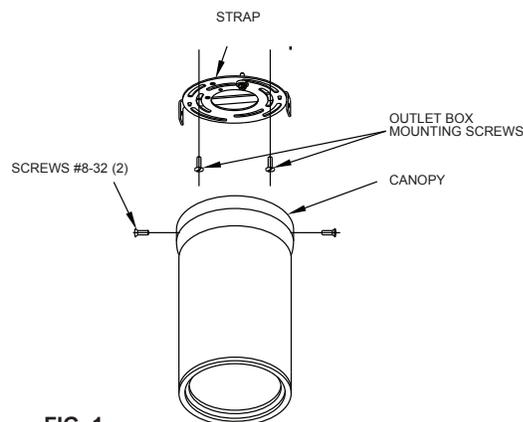

FIG. 1
1. Detach mounting plate from cylinder canopy by loosening the two #8-32 screws that hold the strap in the canopy (Fig.1).
3. Secure mounting plate to outlet box with screws from outlet box (Fig.1).